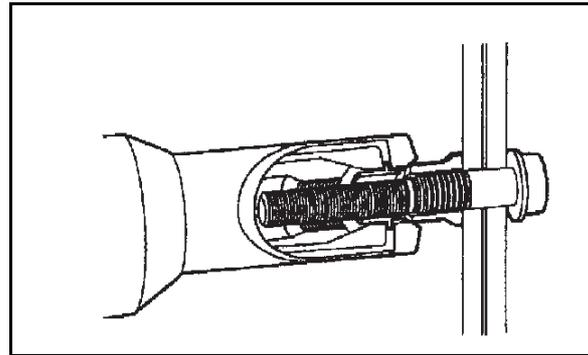

Figure 2.10 Place Installation Tool Over Fastener Pintail 01_0020
- Place the Huck installation tool over the HP 8 fastener pintail (Figure 2.10)